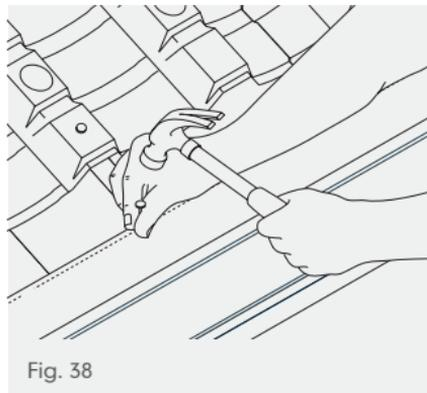

Fig. 38
- 4 Nail to top of fascia or tilting fillet using 45mm x 3.35mm (10mm OFV) or 60mm x 3.35mm (25mm OFV) aluminium nails at every nail hole position (Fig. 38).